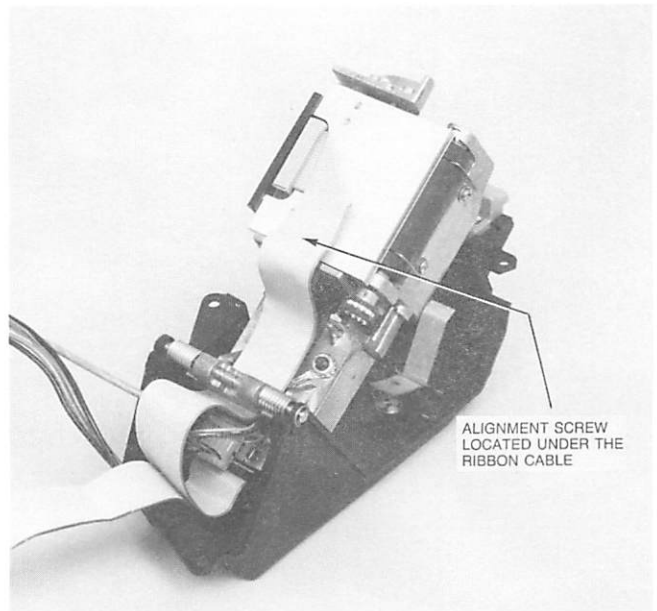

Figure 3-16. Location of alignment screw (under ribbon cable)
3. With a #8 hex wrench adjust the adjustment screw on the recorder. (See Figure 3-16.)